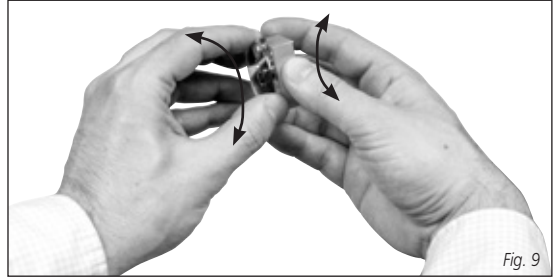

Fig. 9
4. Spinning the cover in the same direction and holding the magazine in a vertical position continue placing the pellets until the all positions are filled. Once the magazine is full, spin the aluminum side in the opposite direction and return the magazine to its initial position. (Fig.9)